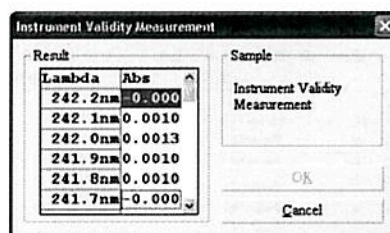
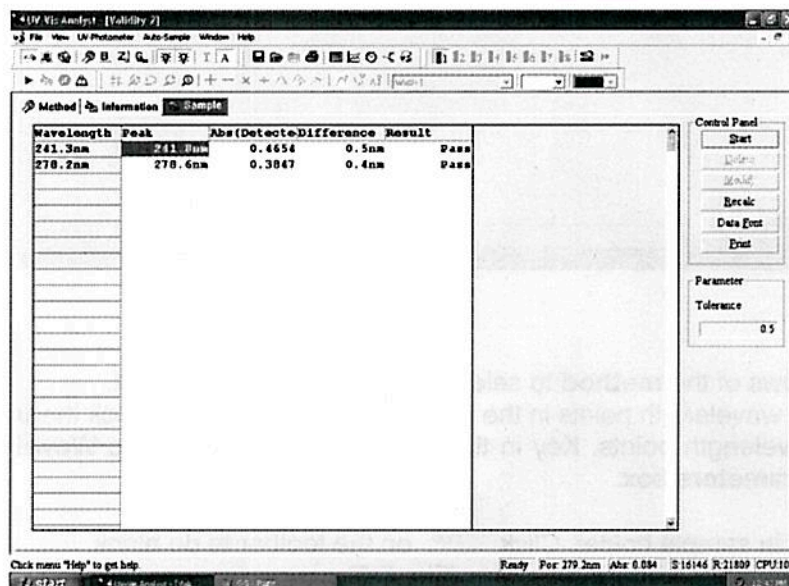

Fig. 5-7
Fig. 5-8
6. Place the **Wavelength Standard Filter** in sample holder, click  to run a new measurement, appears following form (Fig. 5-7). Click OK to list the data in the table (Fig. 5-8).